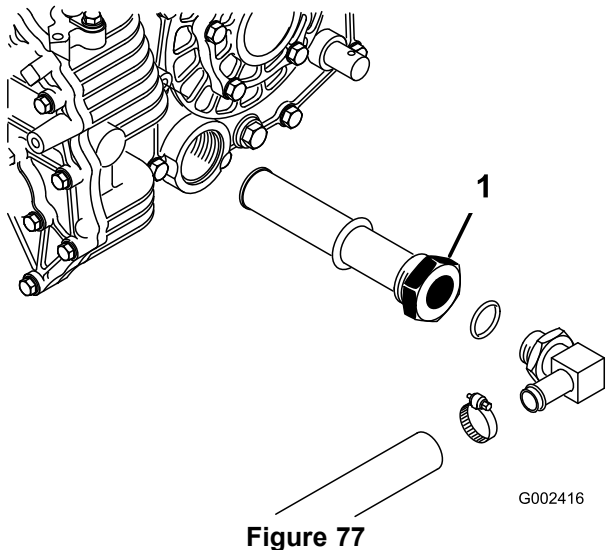

Figure 77
3. Note the orientation of the hydraulic hose and 90 degree fitting connected to the strainer on the side of the reservoir (Figure 77). Remove the hydraulic hose and 90 degree fitting.